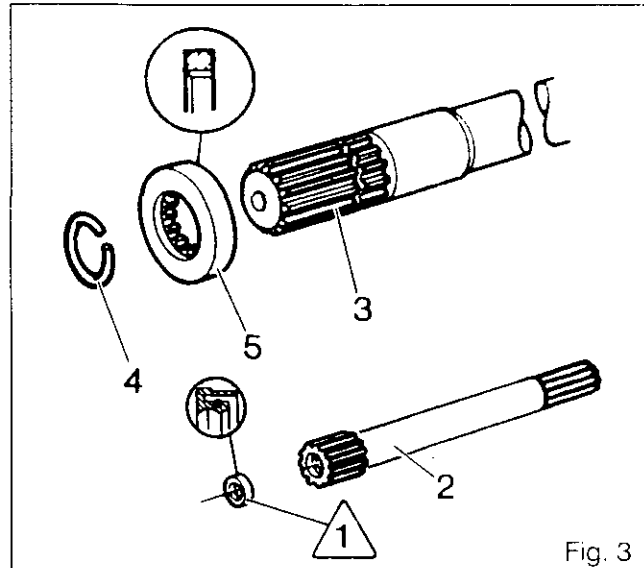
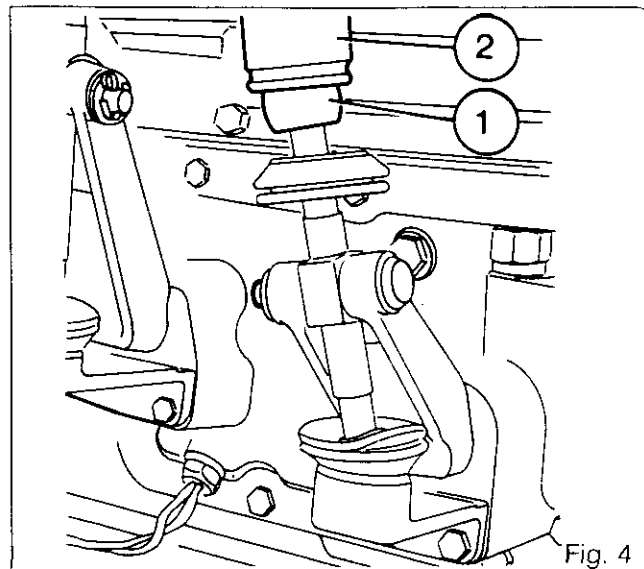

Fig. 3
Fig. 4
14. Replace the seal /1\ on the input shaft (2) (Fig.3).
- a) withdraw the PTO shaft (3).
- d) remove the circlip (4) and the washer (5).
- e) protect the splined end of the shaft (3).
- h) refit the washer (5) and the circlip (4).
**Note: When replacing the cab on its supports, check that the balls (1) of the gear and reverser levers are correctly located in their respective housings (2) (Fig.4).**
15. Assemble the carrier (3) on the clutch slave cylinder (2) with the pin /1\ (Fig.3).
16. **Position service tool 3376802 M1 (36 mm shim) between the end of the guide-pin (4) and the face of the control cylinder (2) (Fig.3).**
18. **Replace the seal /1\ on the input shaft (2) (Fig.4).**
- c) replace the PTO shaft (3).
**Note : During assembly, the release bearing must be heard to engage in the clutch cover plate. Remove the service tool through the inspection hole (Fig.3).**